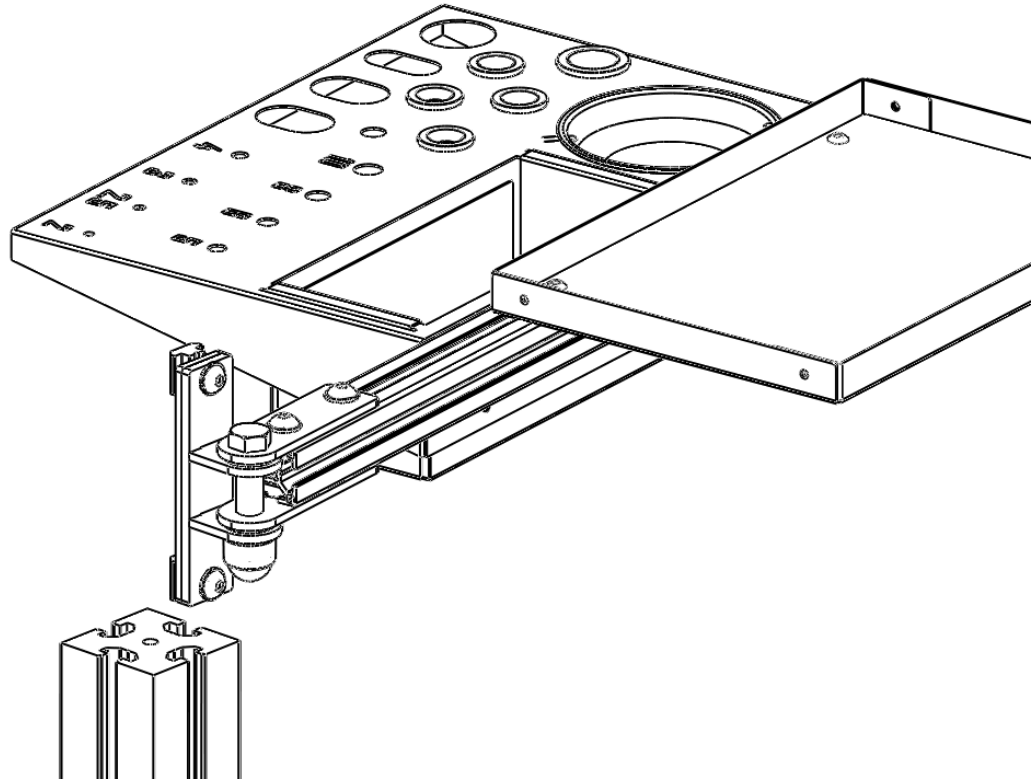

Figure 1
The Add-On arm is installed by sliding the groove nuts of the arm mount into the rear groove of Stabily's main column (See Figures 1 and 2). It is secured to your preferred height by tightening the two screws with a 5 mm hex key.
2. Remove the plastic cover from the Add-On arm (Figure 1). Use a plastic tool to protect the aluminum.